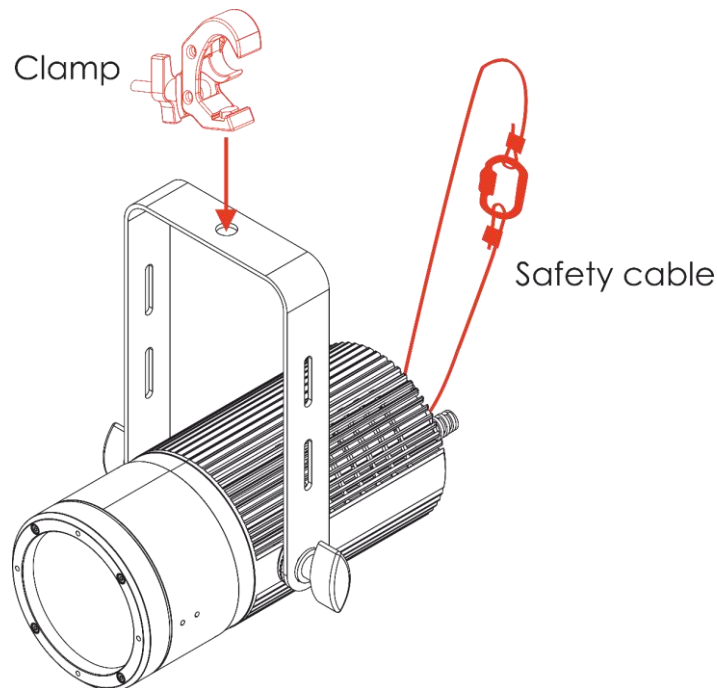

Fig. 09
The device can be mounted to a truss or other rigging structure in any orientation, as shown in Fig. 09. Make sure that all loads are within the pre-determined limits of the supporting structure.
- 01) Use a clamp to attach the device to the supporting structure, as shown in Fig. 09. Make sure that the device cannot move freely.
- 02) Secure the device with a secondary suspension, for example a safety cable. Make sure that the secondary suspension can hold 10 times the weight of the device. If possible, the secondary suspension should be attached to a supporting structure independent of the primary suspension. Put the safety cable through the **safety eye (06)**, as shown in Fig. 09. You can use the safety cable supplied with the device.